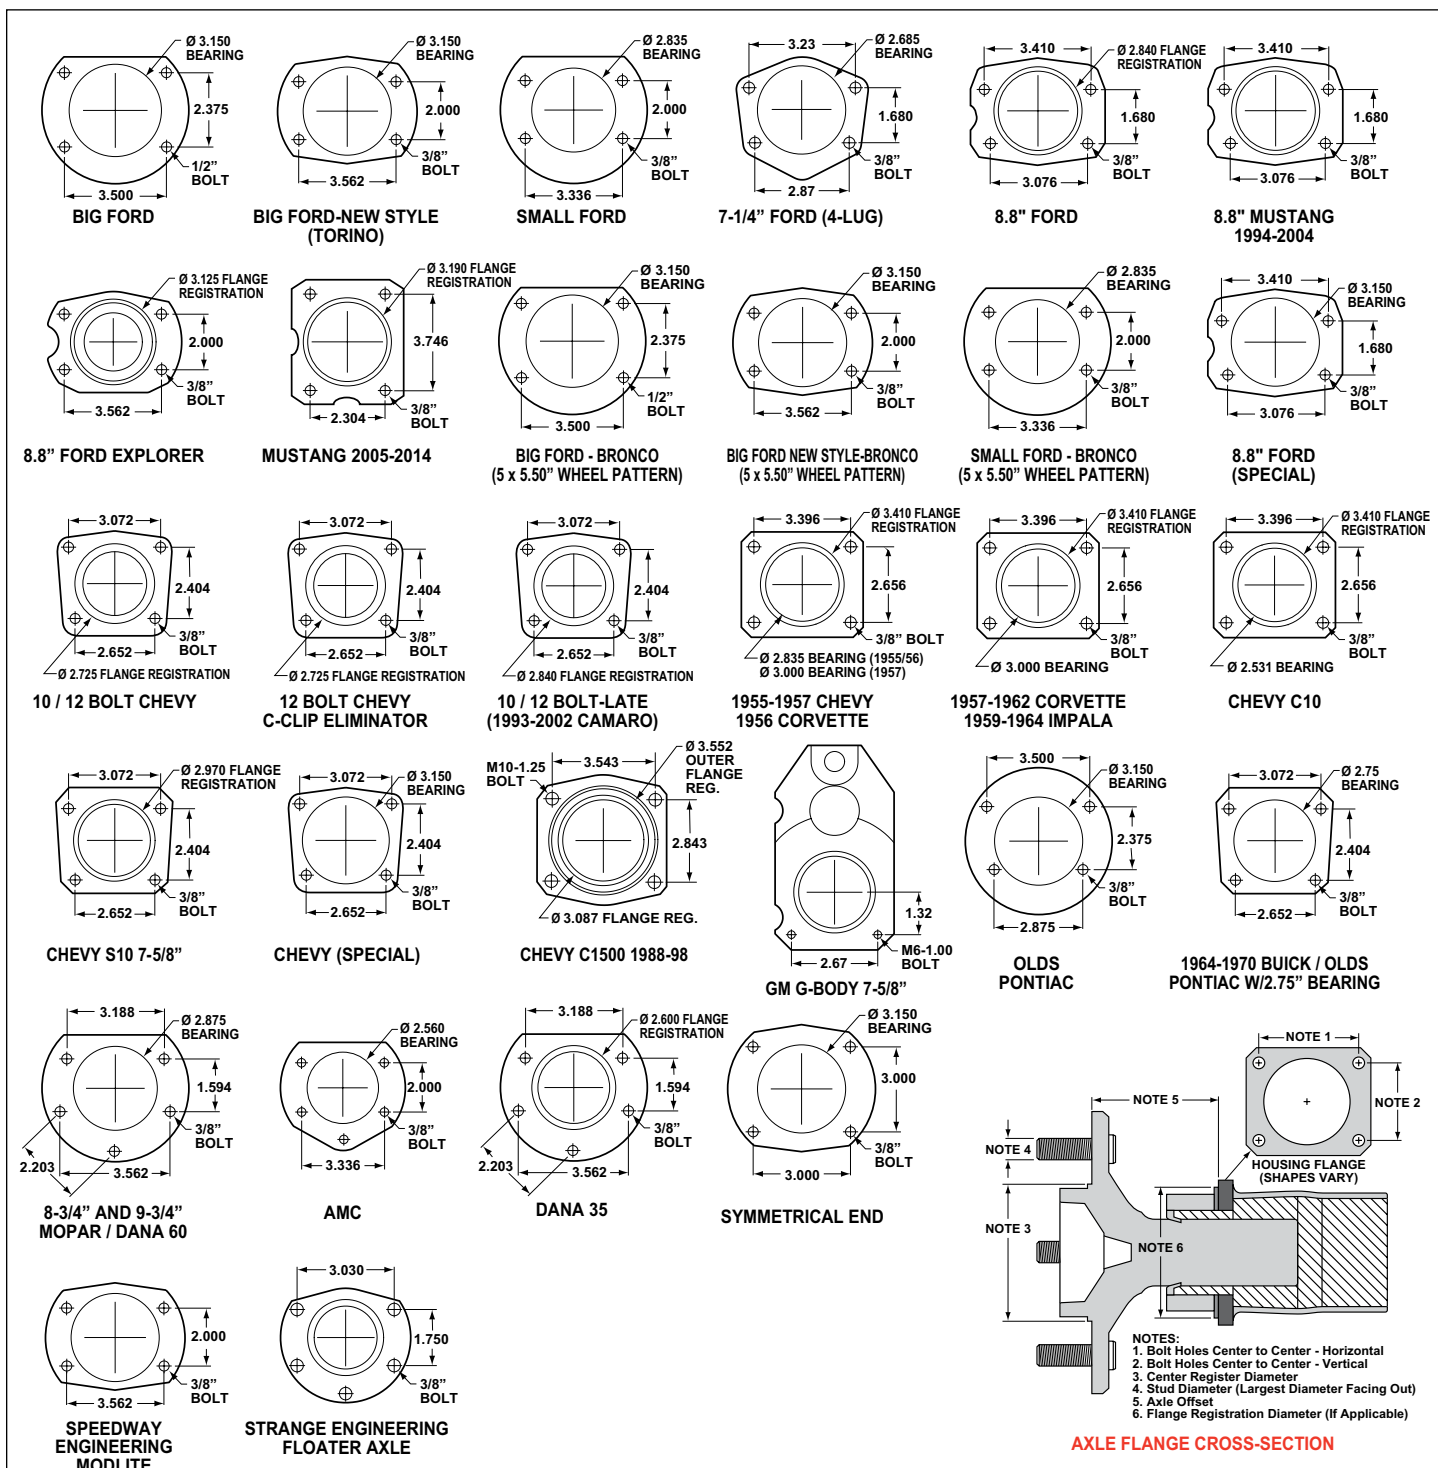

Figure 9. Rear Housing Flange Chart and Axle Flange / Offset Cross-Section
- Make sure this is the correct kit to fit the axle housing flange, not necessarily the rear end make. Many times after market manufacturers put a different make of axle housing flange on the stock rear end housing (see Figure 9). Example; Big Ford rear ends with Olds-Pontiac flanges, therefore, an Olds-Pontiac rear disc brake kit would be the correct kit to order.
- Dimension from wheel side of axle flange to wheel side of axle housing flange (see Figure 9, lower right hand corner). This dimension is critical to ensure proper alignment of the rotor to the caliper, and should match offset given in the kit description.